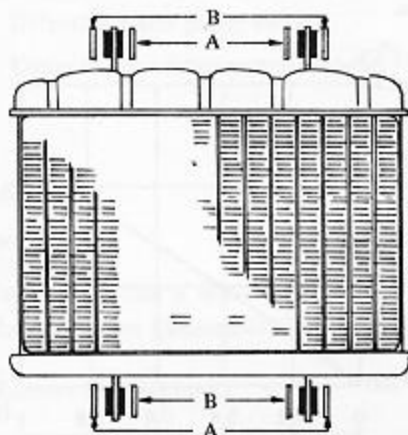

Fig. 7-6 Radiator mounting shims
There are three(3) kinds of radiator mounting washer of different thickness and these washers are used only for the intended purpose respectively. Be sure to use these washers in a right place in accordance with a white painted round mark on the mounting plate welded to the upper and lower tanks of the radiator. See Fig. 7-6.